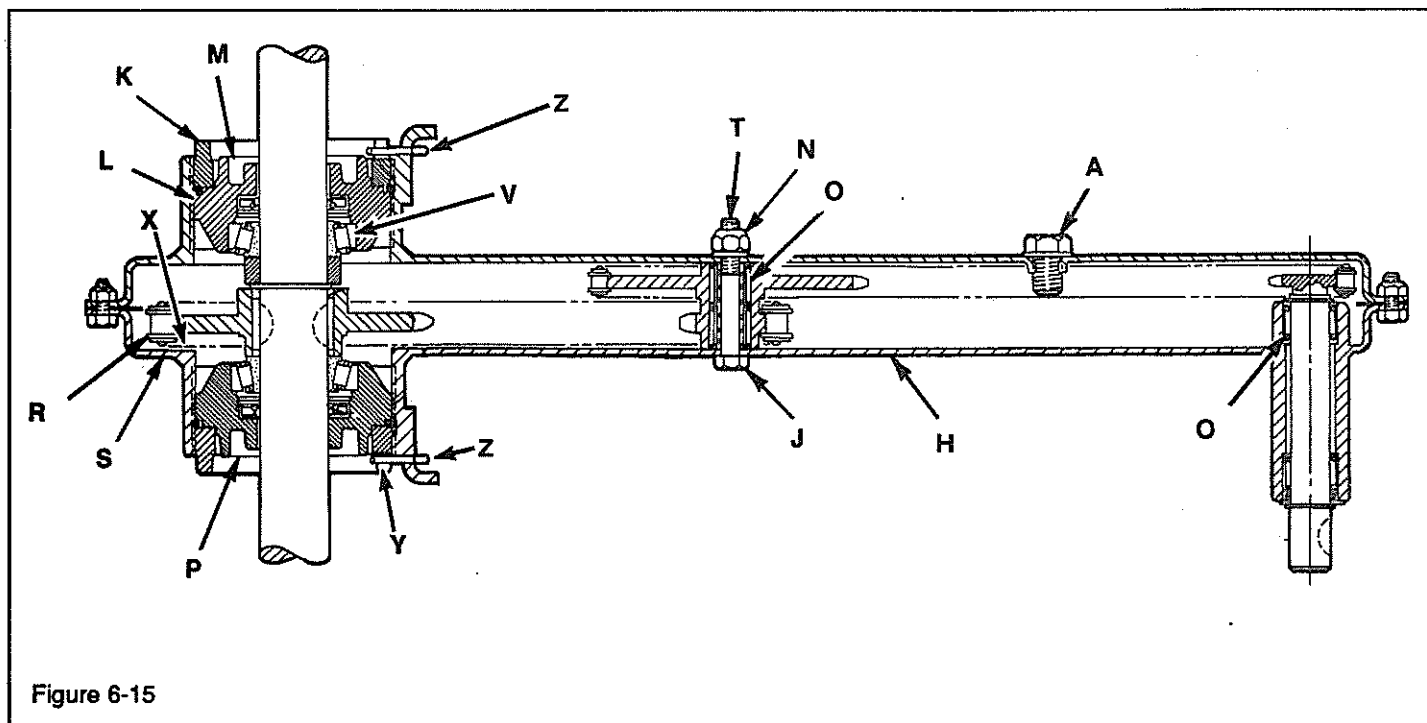
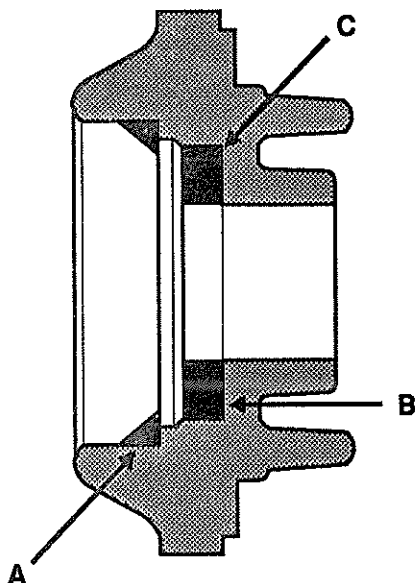

Figure 6-15
Figure 6-16
- Tip gear case assembly over on surface (H, Figure 6-15). Keep supported area against screw (J).
- Remove cotter pin and unscrew locking rings (K).
- Remove O-ring (L) and unscrew bearing retainer (M).
- Remove hex nut (N) and lock washer. Make sure hex screw is supported on back side so screw remains in position when cover is removed.
- Remove the 2 cotter pins (Z, Figure 6-15) securing the locking rings (Y). This allows the locking rings (Y) to be unscrewed from the housing. (A punch and hammer may be used to free the locking rings.)
- Once the locking rings are removed, the bearing carrier (L) is now exposed. To expose the seals, remove the bearing carriers.
- When the inner bearing race (A, Figure 6-16) is removed, the oil seal (B) can be seen. Use a hammer and steel punch and drive the oil seal out, towards the bearing race which was removed earlier.
- e. When re-installing the seals, apply sealant to the outer metal surface (C, Figure 6-16). This will ensure a tight seal against the bearing carrier and seal.
The oil level and fill hole (A, Figure 6-15) is located on the right side of the gear case. Check the oil level while the tiller is mounted on the tractor and the tines rested on the ground. Oil level should be filled to the level of the plug.